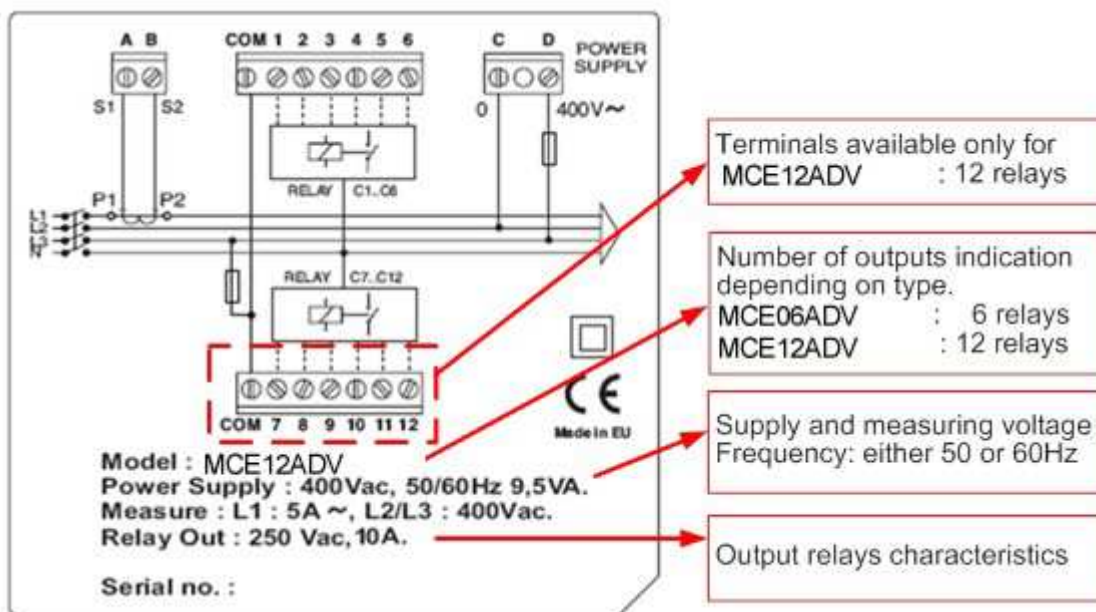

Fig. 1.1.- Rear face label
- The equipment corresponds to type you ordered. (See label at the rear face, fig. 1.1)